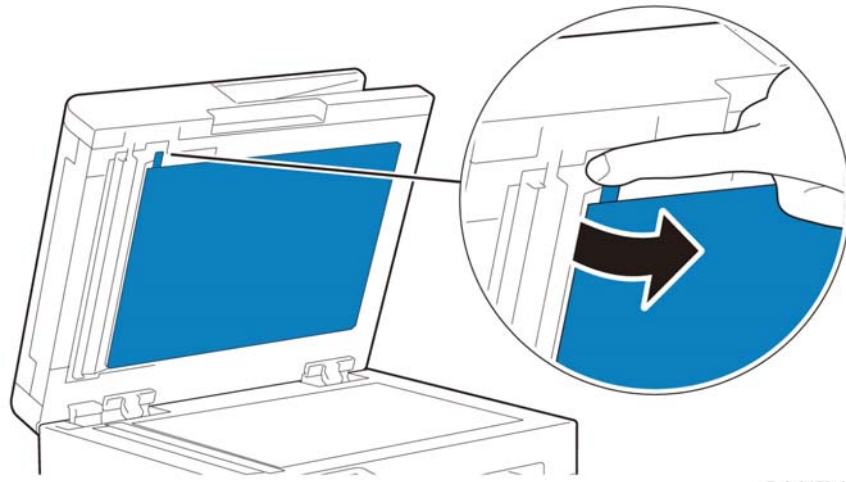

Figure 2 Opening the second-side scanning access cover
6. To access the second-side scanning lens assembly, lower the second-side scanning access cover, Figure 2.